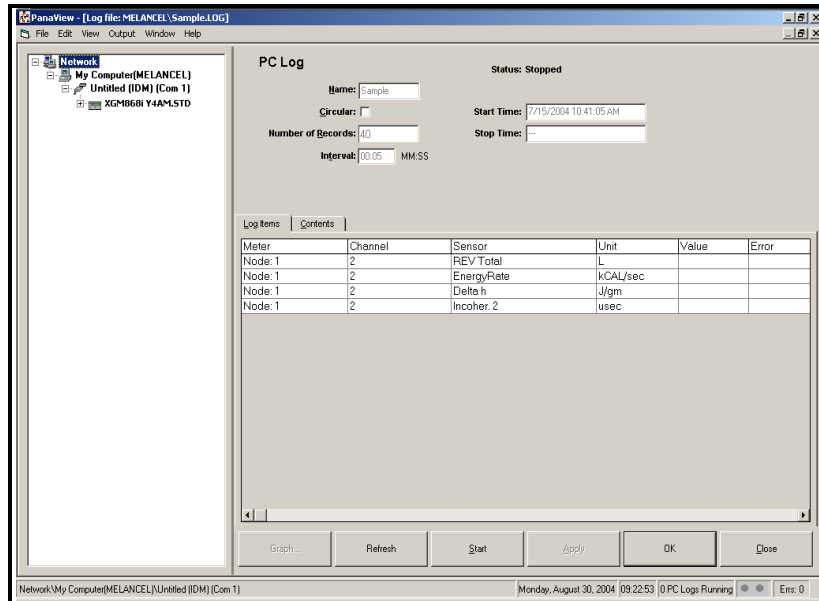

Figure 3-9: PC Log Window
6. At the resulting *PC Log* window shown in Figure 3-9 below, place a check mark in the text box to create a *circular log*, or leave this box empty to create a linear log.
7. Enter a sampling *interval* in the text box shown in Figure 3-9 above.